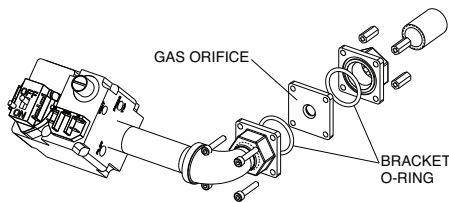

Fig. 35: Orifice Location
4. Locate and remove the (4) bolts & nuts holding the gas orifice in place. See Fig. 35 above.